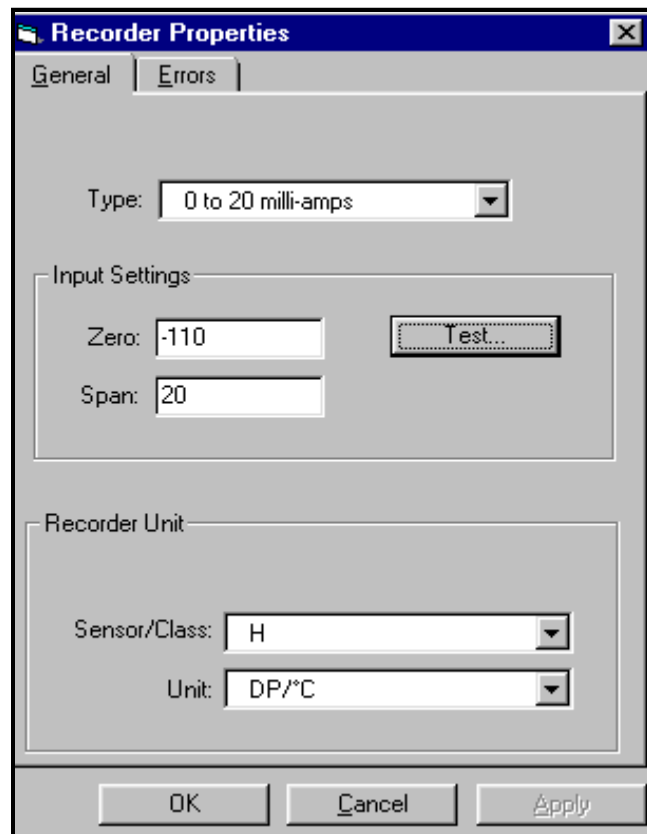

Figure 4-4: Recorder Properties Window
2. From the channel menu, click on the “*Recorders*” option, and then on “*Recorder A*” or “*Recorder B*.” The Recorder Properties window appears, as shown in Figure 4-4 below.
1. To test the recorder outputs, click on the [Test] button shown in the “*Recorder Properties*” window (Figure 4-4 on page 4-6). A message appears: “This will suspend Recorder #[X] on Channel [X]. Are you sure you want to test this recorder?” Click on [OK] to continue.